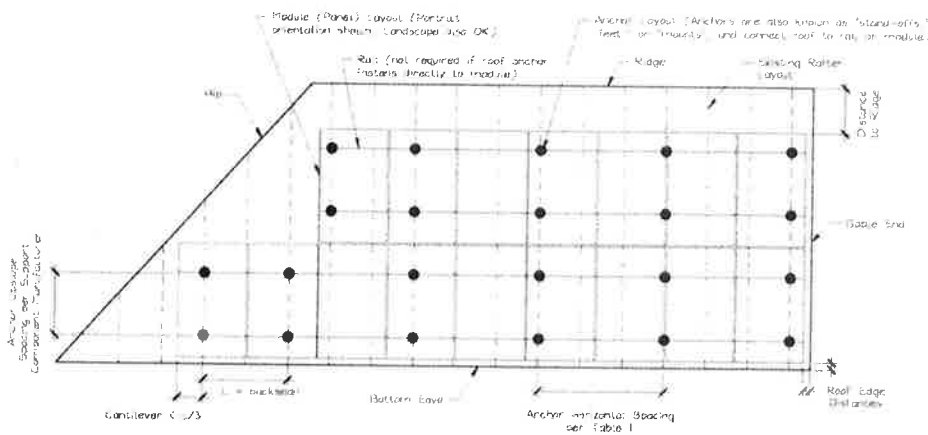

Figure 2. Sample Solar Panel Array and Anchor Layout Diagram (Roof Plan)
E. Is a roof plan of the module and anchor layout attached? (see Figure 2)
- 1) Proposed anchor horizontal spacing (see Figure 2): ft in
1. Anchors are also known as "stand-offs," "feet," "mounts" or "points of attachment." Horizontal anchor spacing is also known as "cross-slope" or "east-west" anchor spacing (see Figure 2).